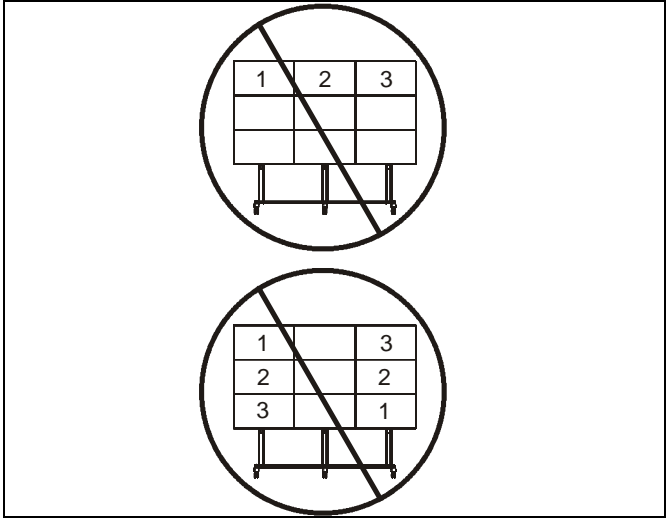
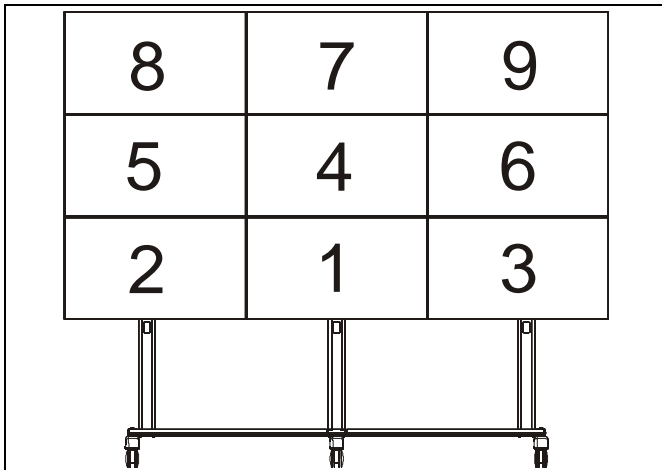

Figure 17
Figure 16
- Starting from the bottom and working up, hang interface brackets (AA and BB) to display rails (K or L and KK). (See Figure 16)
WARNING: Improper display installation to the cart can result in serious personal injury or damage to equipment! Install displays from the bottom to the top to decrease the risk of tipping the mount during installation. Do not mount all of the displays on one side prior to installing the displays evenly in each row. On the LVM3X3, mount the center displays in each row prior to installing the outside displays. See Figure 16 for an ideal mounting order for the LVM3X3. See Figure 17 for unacceptable and risky installation mounting orders.